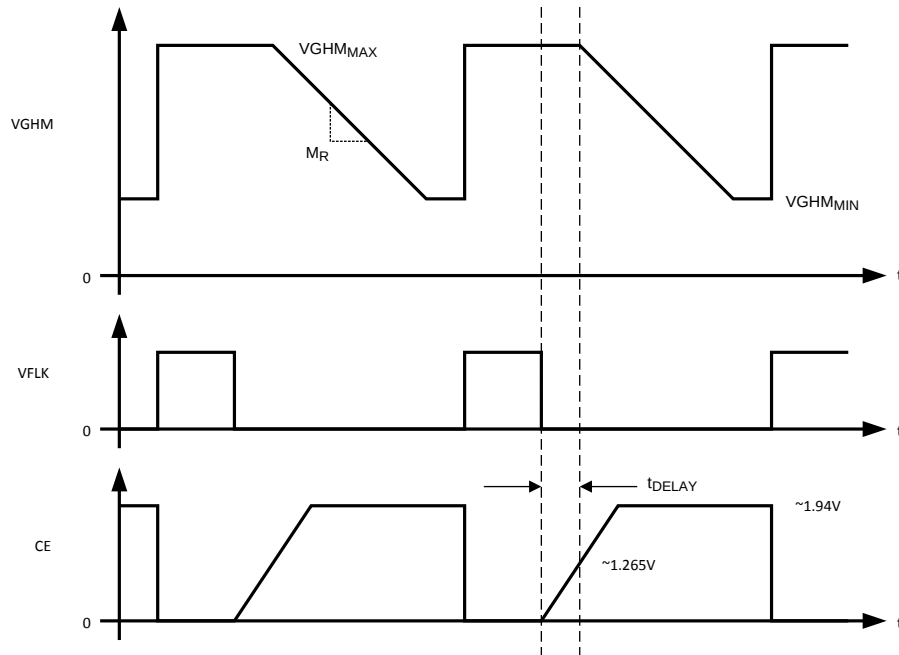
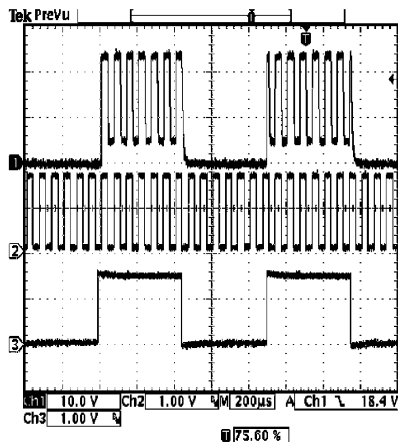

Figure 57.
Figure 58. Waveform
The Gate Pulse Modulation (GPM) block is designed to provide a modulated voltage to the gate driver circuitry of a TFT LCD display. Operation is best understood by referring to the GPM block diagram in the Block Diagrams section, the drawing in Figure 57 and the transient waveforms in Figure 58 and Figure 59.
When VDPM is high, typical waveforms for the GPM block can be seen in Figure 57. The pin VGH is typically driven by a 2x or 3x charge pump. In most cases, the 2x or 3x charge pump is a discrete solution driven from the SW pin and the output of the boost switching regulator. When VFLK is high, the PMOS switch P2 is turned on and the PMOS switch P3 is turned off. With P2 on, the VGHM pin is pulled to the same voltage applied to the VGH pin. This provides a high gate drive voltage, VGH_{MAX} , and can source current to the gate drive circuitry. When VFLK is high, NMOS switch N3 is on which discharges the capacitor CE.
When the voltage on CE reaches about 1.265V and the VFLK signal is low, the PMOS switch P2 will turn off and the PMOS switch P3 will turn on connecting resistor R3 to the VGHM pin through P3. This will discharge the voltage at VGHM at some rate determined by R3 creating a slope, M_R , as shown in Figure 57. The VGHM pin is no longer a current source, it is now sinking current from the gate drive circuitry.
Figure 58 and Figure 59 give typical transient waveforms for the GPM block. Waveform (1) is the VGHM pin, (2) is the VFLK and (3) is the VDPM. The output of the boost switching regulator is operating at 8.5V and there is a 3x discrete charge pump (~23.5V) supplying the VGH pin. In Figure 58 and Figure 59, the VGHM pin is driving a purely capacitive load, 4.7nF. The value of resistor R1 is 15kohm, R2 is 1.1kΩ and R3 is 750Ω. In both transient plots, there is no C_E delay capacitor.